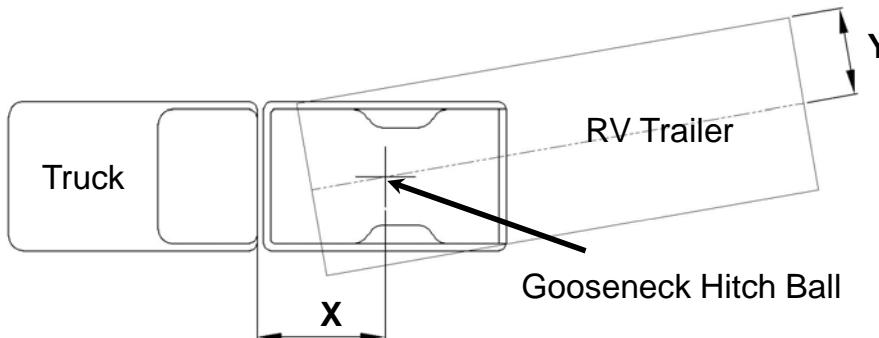

**Fig. 3**
- (See Fig. 3). If in doubt have pin weight measured by qualified facility.
4. Approximately 15%-25% of trailer weight should be on hitch (Pin Weight). See Fig. 3.